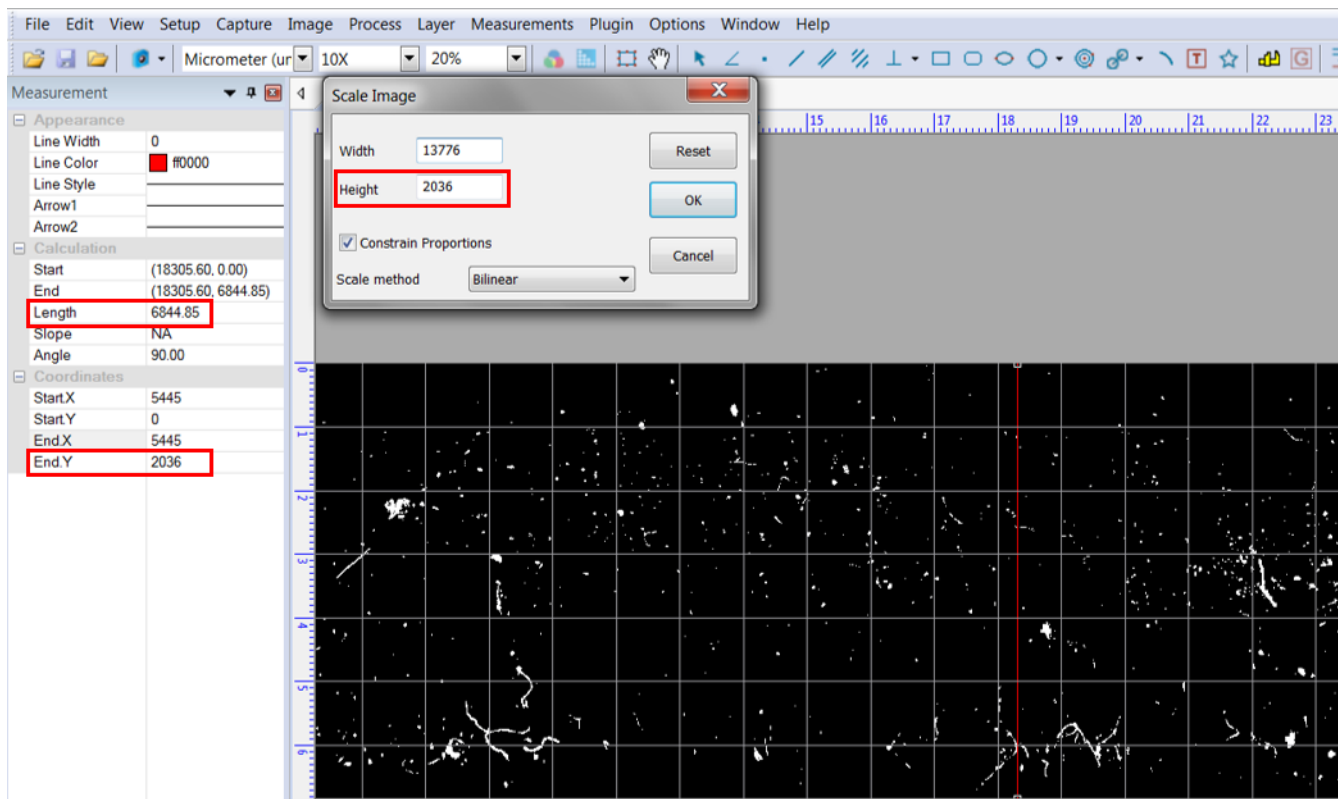

Figure 49. Verifying image dimensions
- 3) Draw a straight vertical line from the top of the stitched image to the bottom, as in Figure 49. The length in μm of the line will appear in the **Measurement Sidebar**.